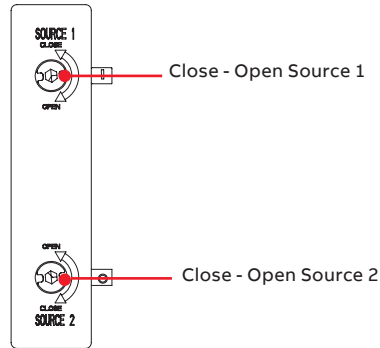

Fig. 5 Source Ha1- Source 2 Direction of Handle Rotation for Contact Closure
3. Insert the manual handle into the desired port of the automatic transfer switch (Fig. 5).
4. Rotate handle with two hands, in the direction as shown on the markings, to achieve the proper contact state (Fig. 5).